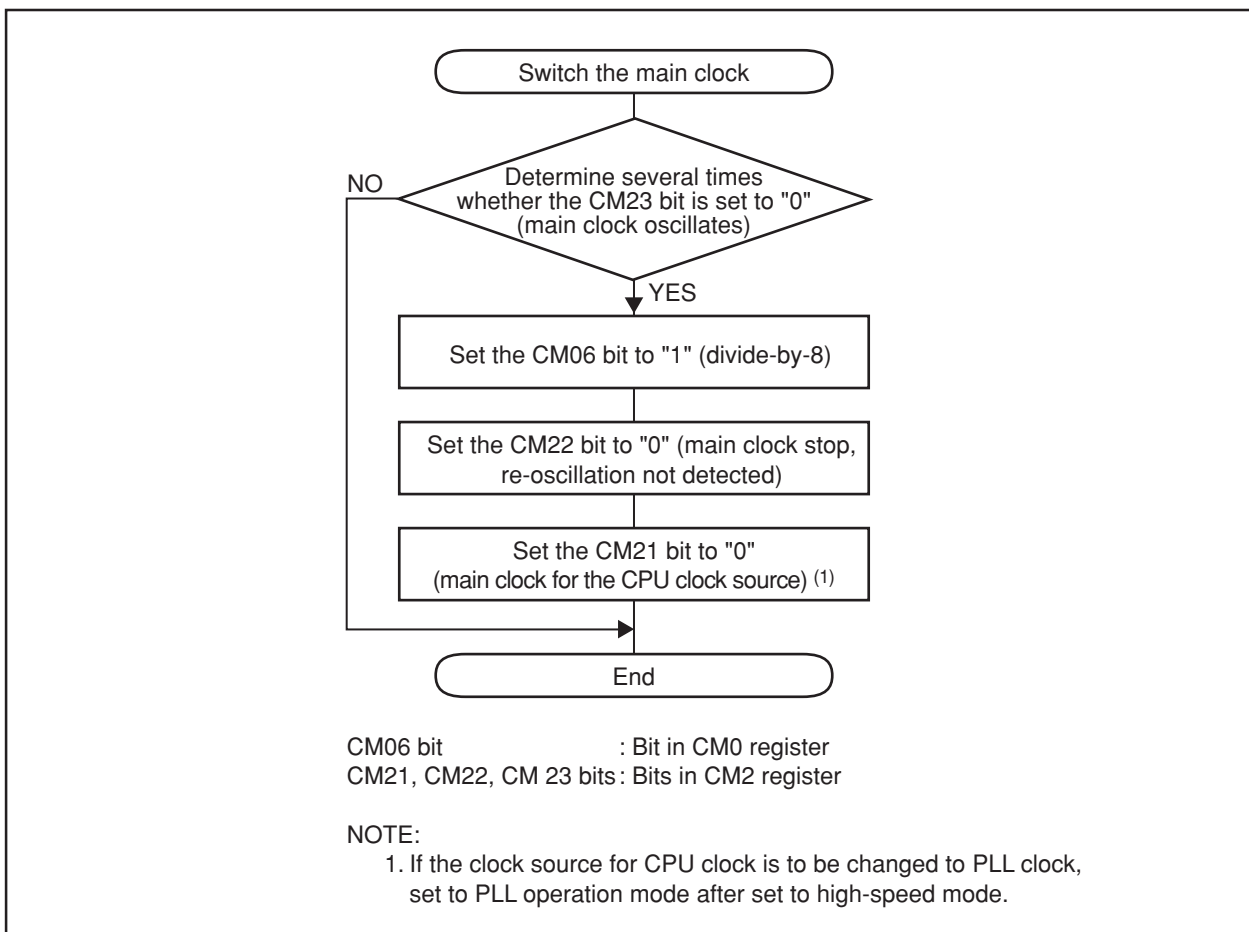

Figure 7.14 Procedure to Switch Clock Source from On-chip Oscillator to Main Clock
- Where the main clock re-oscillated after oscillation stop, the clock source for CPU clock and peripheral function must be switched to the main clock in the program. Figure 7.14 shows the procedure to switch the clock source from the on-chip oscillator to the main clock.